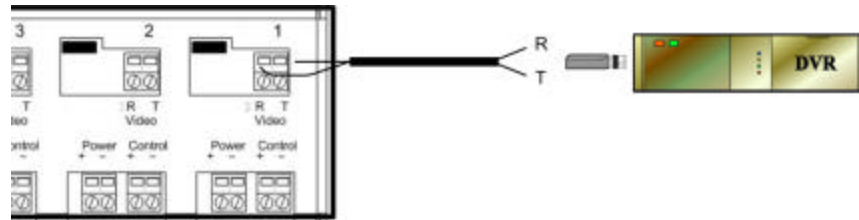

Figure 15: Video connection, Model IC563A
8. Connect one (1) twisted pair for video between the hub and the balun on the DVR (fig 15).